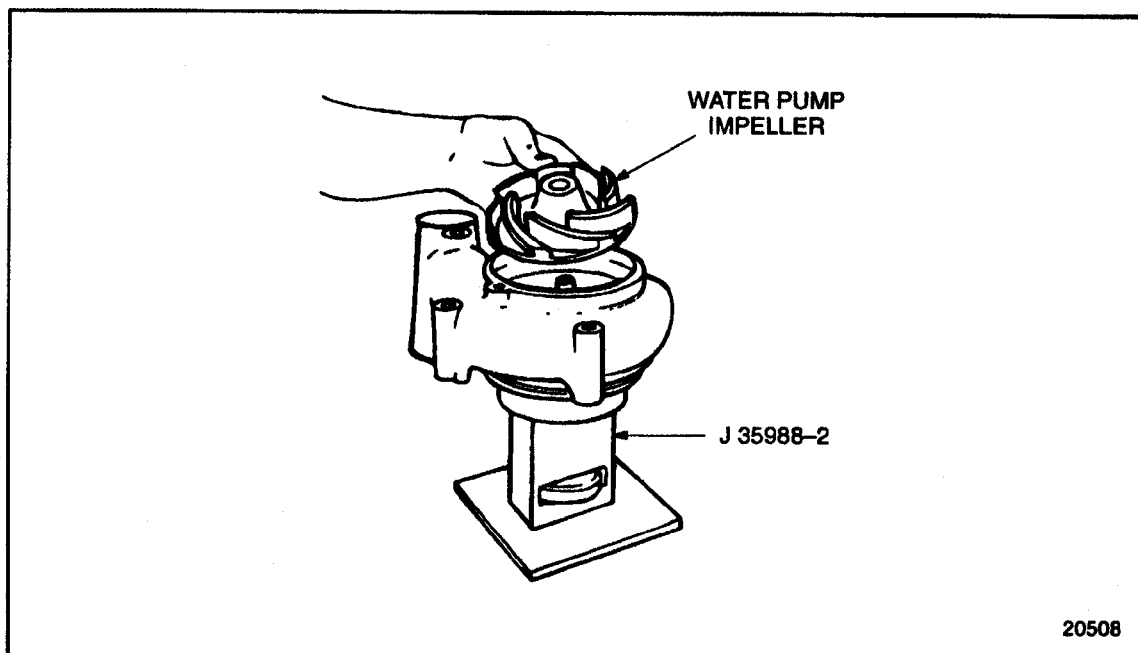

Figure 4-60 Water Pump Impeller Installation (FM)
21. With the water pump housing still housed in tool J 35988-2, part of tool set J 35988-B, and located on a press bed, install the water pump impeller to the end of the drive shaft. Position the impeller so that the machined end is parallel with the housing machined face. See Figure 4-60.